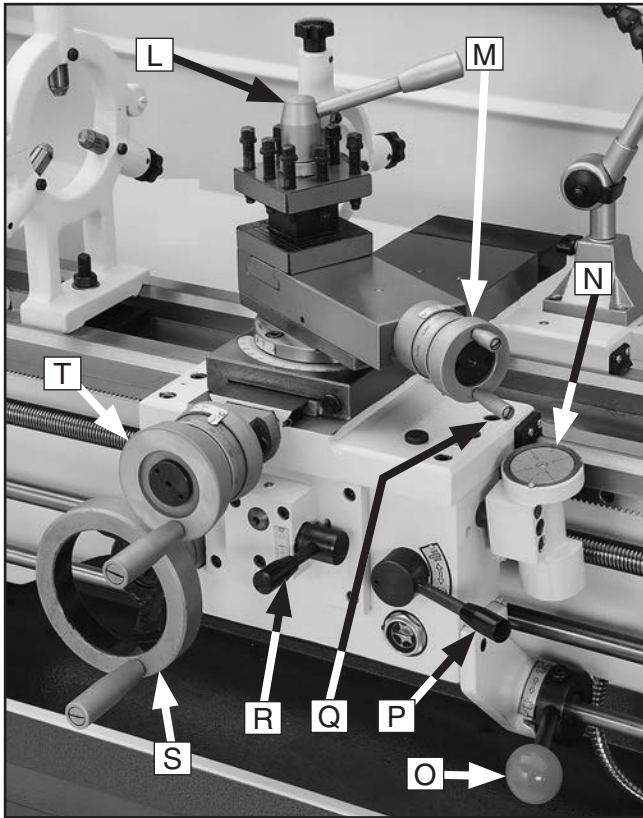

Figure 2. Carriage controls.
- C. Power Start Button:** Enables power to spindle lever (see **Figure 2** on **Page 5**).